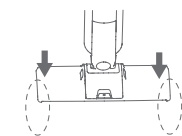

**FIGURE 7-2**
**Disassembly:** Press the two upper lid latch buttons inward with two fingers to pull up floorhead cover (Figure 7). Lift up the handle of dirty water tank and remove for cleaning (Figure 7-2).